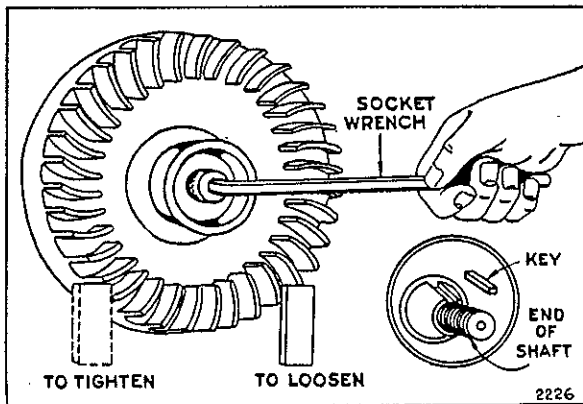

Fig. 1
A. Rope Starter Motors. Remove the blower housing. Bolt or clamp motor to work bench. Place a wood block under flywheel fin on right side of flywheel or a small rod between fins to hold it rigid and prevent turning as you loosen nut. See Fig. 1, Plate No. 6. Use large wrench, 10 inch or bigger. To start nut to the RIGHT tap end of wrench handle lightly with hammer. Tap carefully or a broken fin may result which will throw flywheel out of balance. After nut is removed, loosen flywheel by placing the wood block against end of crankshaft and striking with a hammer. Pull off flywheel.